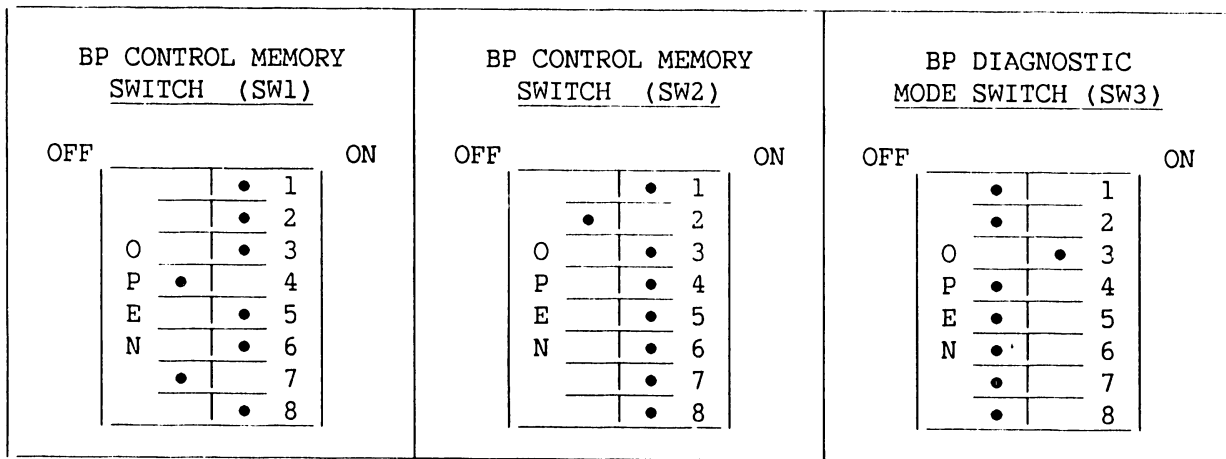
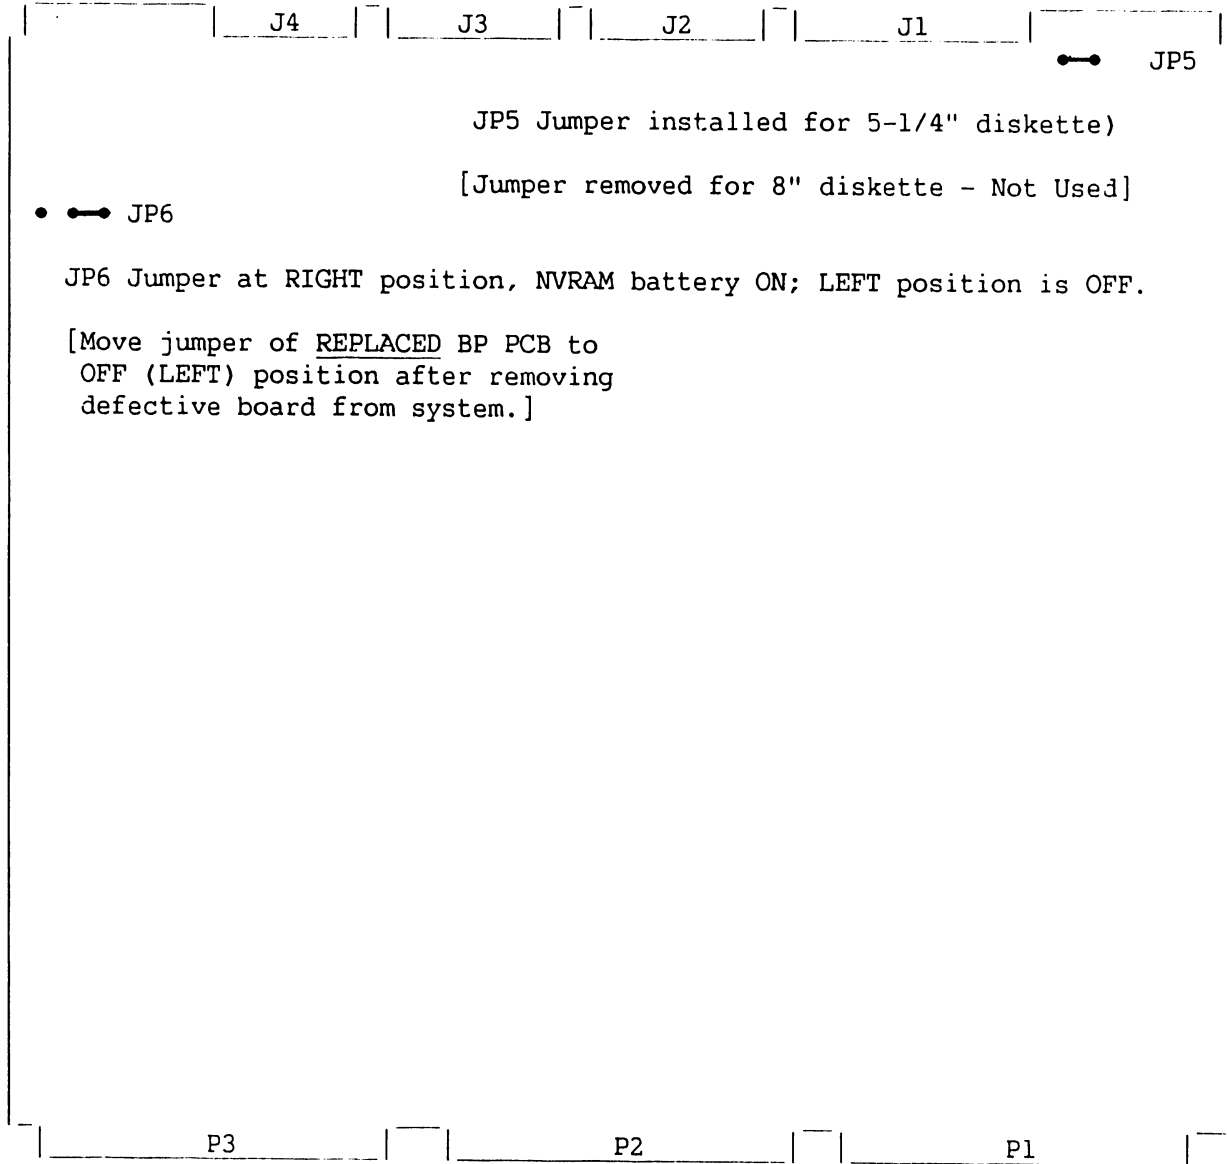

Figure 5-12. BP Control Memory and Diagnostic Rocker Switch Settings
Figure 5-13. Bus Processor Connector and Jumper Locations
3. Check the jumpers (figure 5-13) on the BP board for proper placement, and make sure that the BP Diagnostic Switches (switch bank SW3) shown in figure 5-12 are in the correct positions. All switches except SW3-3 must be OFF for normal operation of power-up diagnostics and system initialization. (Switch SW3-3, which sets the BP's 80286 microprocessor clock at the 6 MHz rate, is currently independent of switch SW3-8.) The diagnostic operational mode of the BP is defined in table 5-3.
- Verify the correct setting of the 8207 dual-port Code RAM Memory Controller switches (switch banks SW1 & SW2) as given in tables 5-4 and 5-5, and shown in figure 5-12.